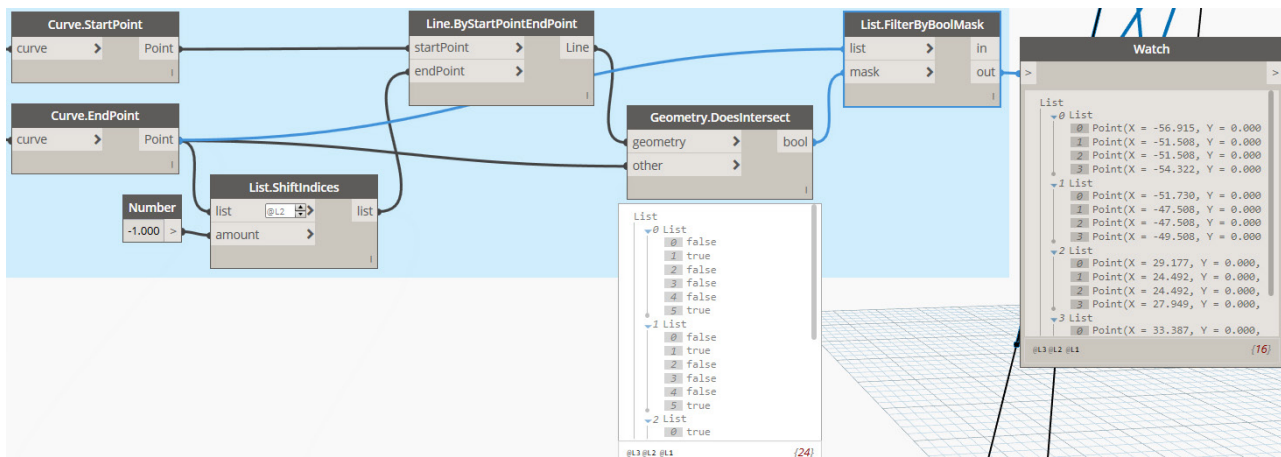

FIGURE 102
41. For the **list** port, feed in the output of the **Curve.EndPoint** node (see Figure 102).